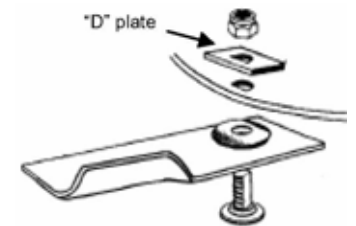

Figure 16. Blade Attachments
- ★ Retain the "D" plates and discard the blades and fasteners. NB. Mowers fitted with a circular cutting disc must be fitted with a "D" Plate (as shown in figure 16)
- ★ Fit new blades and fasten in the correct order. Refer to figure 16.